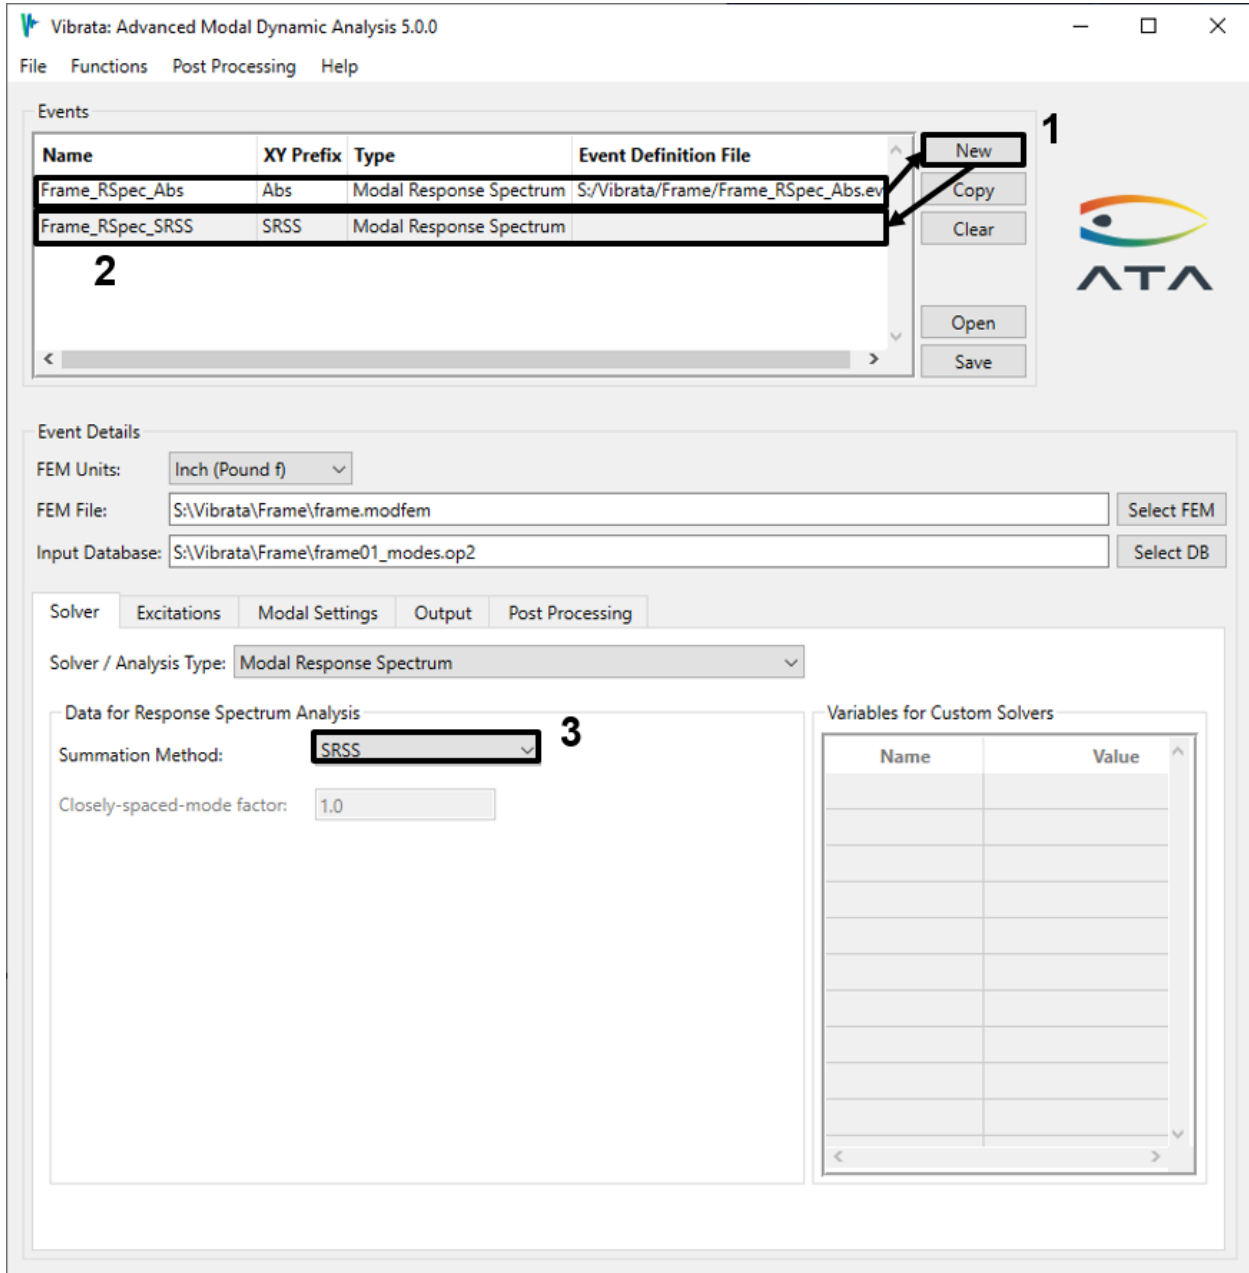

Figure 4-83. Copy the event and change the summation method to SRSS.
- Copy this event. Change the summation method to *SRSS* and change the event name to reflect this (Figure 4-83). Solve the SRSS event.